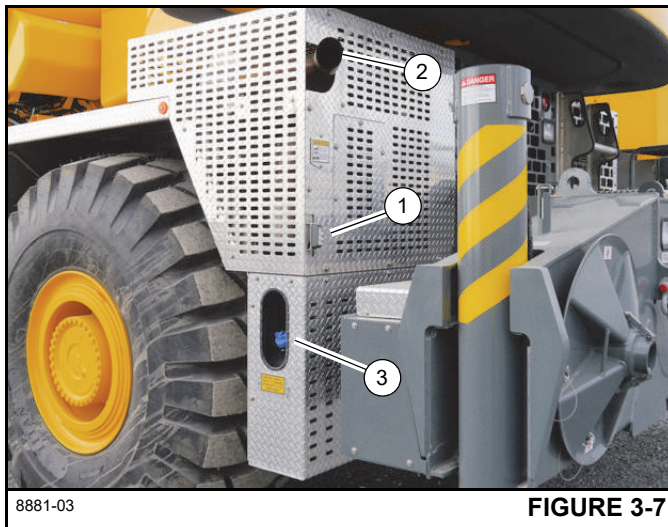

FIGURE 3-7
As a warning, the light (1, Figure 3-7) below the exhaust pipe (2, Figure 3-7) will blink during cleaning.
The DEF Gauge (9) indicates the amount of diesel exhaust fluid (DEF) in the DEF tank (3, Figure 3-7) and has a scale